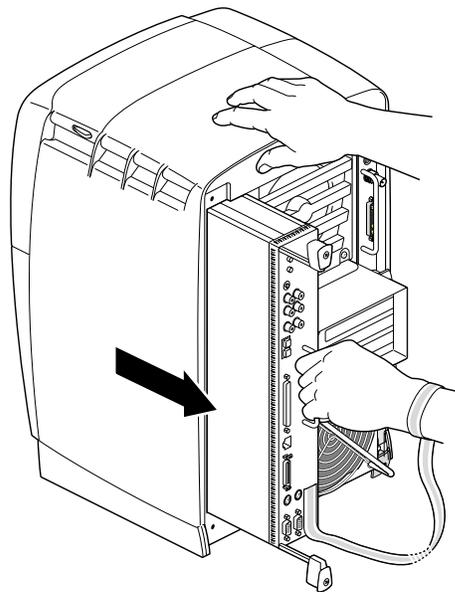

Figure 2-7 Removing the System Module from the Chassis
3. Pull the system module from the chassis by grasping the immovable handle with your left hand and bracing your right hand against the top of the workstation, as shown in Figure 2-7.